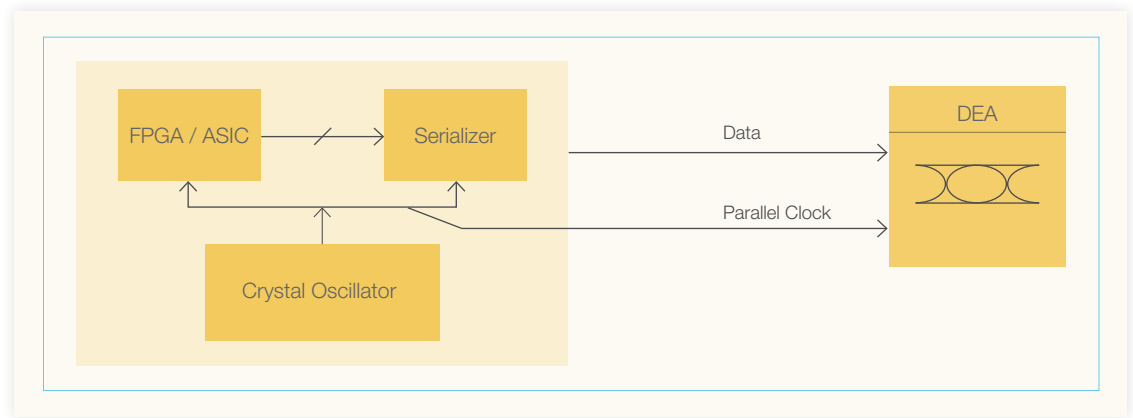

Fig 3.2.1.1. Triggering DEA with parallel clock
3.2.1: Reference Parallel Clock: If a parallel clock is available in the parallel-serial system, it can be used for triggering DEA. Fig 3.2.1.1 shows the configuration.